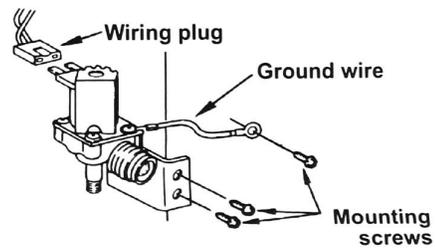

Figure 4
7. Remove wiring plug from the coil, and remove mounting screws from mounting bracket and green ground wire. See Figure 4.